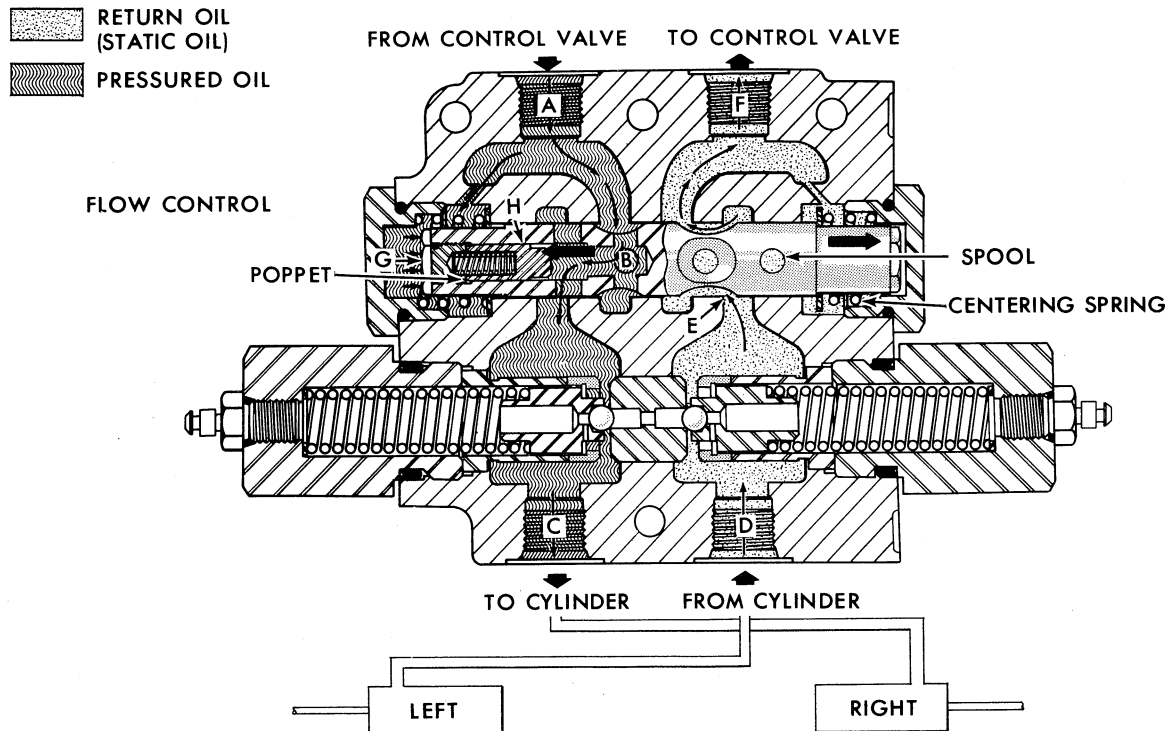
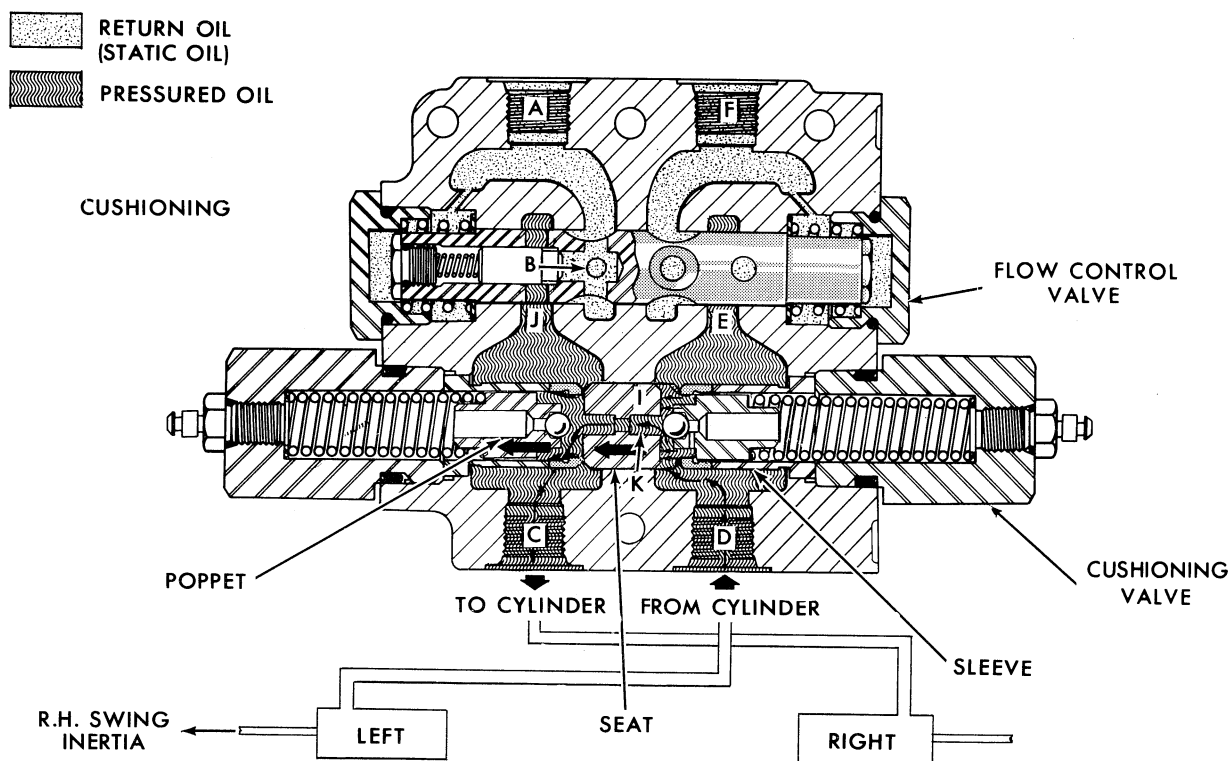

Figure 10
Figure 11
**Flow Control Action:** Pumped oil from the main control valve is directed to port (A), Figure 10, when the control handle is actuated. Oil flows through the spool at (B) and unseats the poppet (H) and allows oil to flow through to an internal valve cavity; hence, to port (C), and to the right swing cylinder. Because of the mechanical linkage of the cylinders, oil in the opposing cylinder is forced out of the cylinder and to port (D) through the valve to the spool.
The position of the spool at initial cylinder loading is such that oil cannot return through the spool to port (F), Figure 11. The oil at (E), being unable to return to sump builds pressure back to port (A). As pressure builds to approximately 75 psi, oil at (G), Figure 10, forces the spool to slide down the bore and open port (E), as shown, allowing oil to return to port (F) and to the control valve.
**Cushioning Valve Action:** The cushioning valve, Figure 11, operates independently of the flow control valve, previously discussed, and functions when the oil flow to or from the swing cylinders has been cut off at the main control valve. Figure 11 represents a continuation of the right swing cylinder flow pattern shown in Figure 10 and is described as follows:
When the main control valve swing lever is returned to neutral, pressure in passage (A), Figure 11, of the flow control valve drops, and the spool at (B) returns